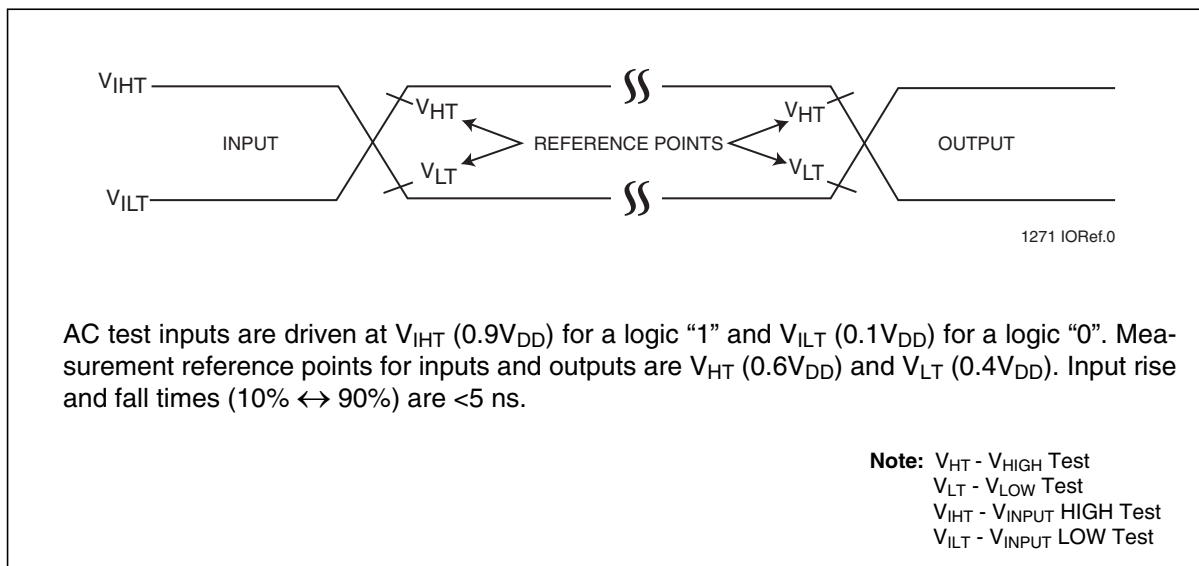

Figure 26: AC Input/Output Reference Waveforms
1. See Figures 26 and 27
| 01 | <ul style="list-style-type: none"> Corrected "JEDEC Read-ID" on page 20 including timing diagram Corrected V_{HT} and V_{LT} values in Figure 26 on page 28 | Sep 2005 |